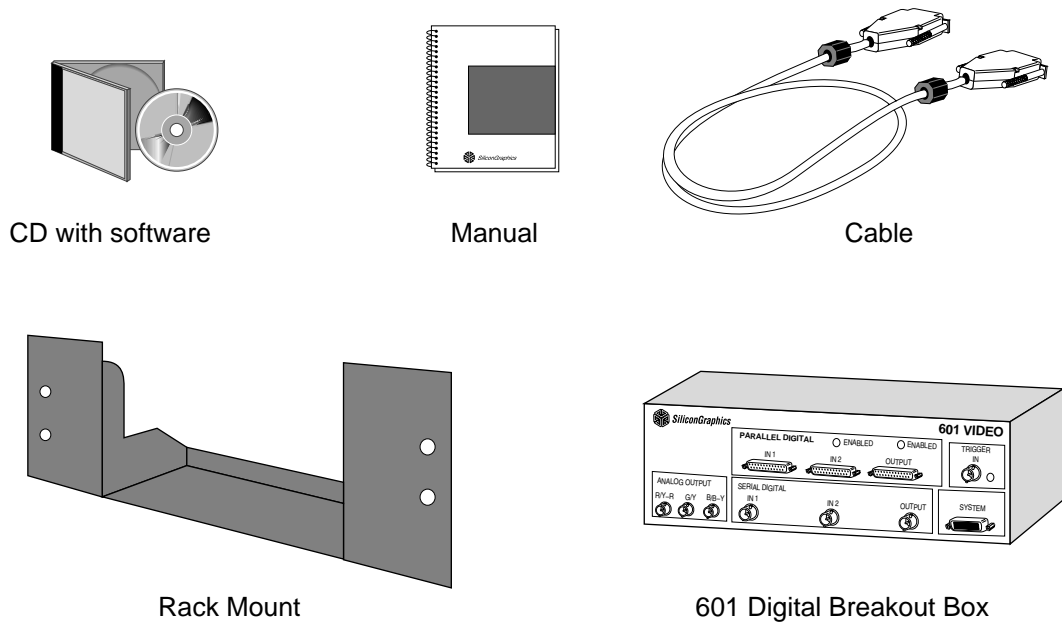

Figure 2-1 Galileo 601 and Indy Video 601 Option Components
- Figure 2-1** Galileo 601 and Indy Video 601 Option Components 6
Figure 2-1 shows the parts included with the Galileo 601 Option and the Indy Video 601 Option. You may receive one or more CDs that contain the latest operating system. Contact your service provider if any of the pieces is missing or damaged.